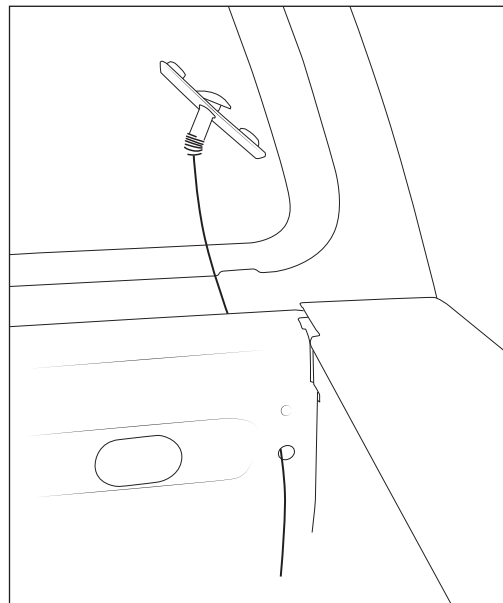

Figure 4
- Thread the provided fish wire onto the M10x35 carriage bolt with nut plate and fish through the hole and secure with a retaining washer (fig. 4).